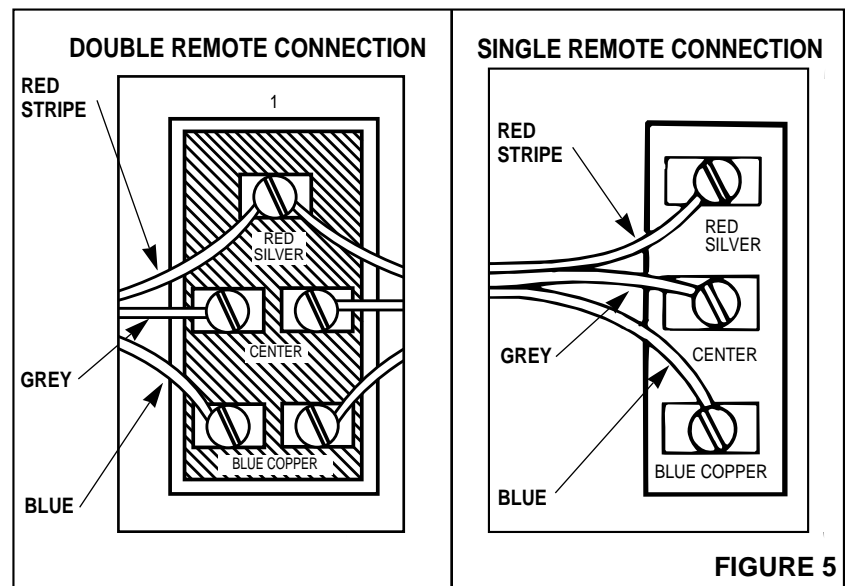

FIGURE 5
4. Refer to Figure 5. The system will accommodate up to 13 speakers. If more than 9 speakers are connected, use only terminals 1, 2, 6 and 7 for double wiring connections.